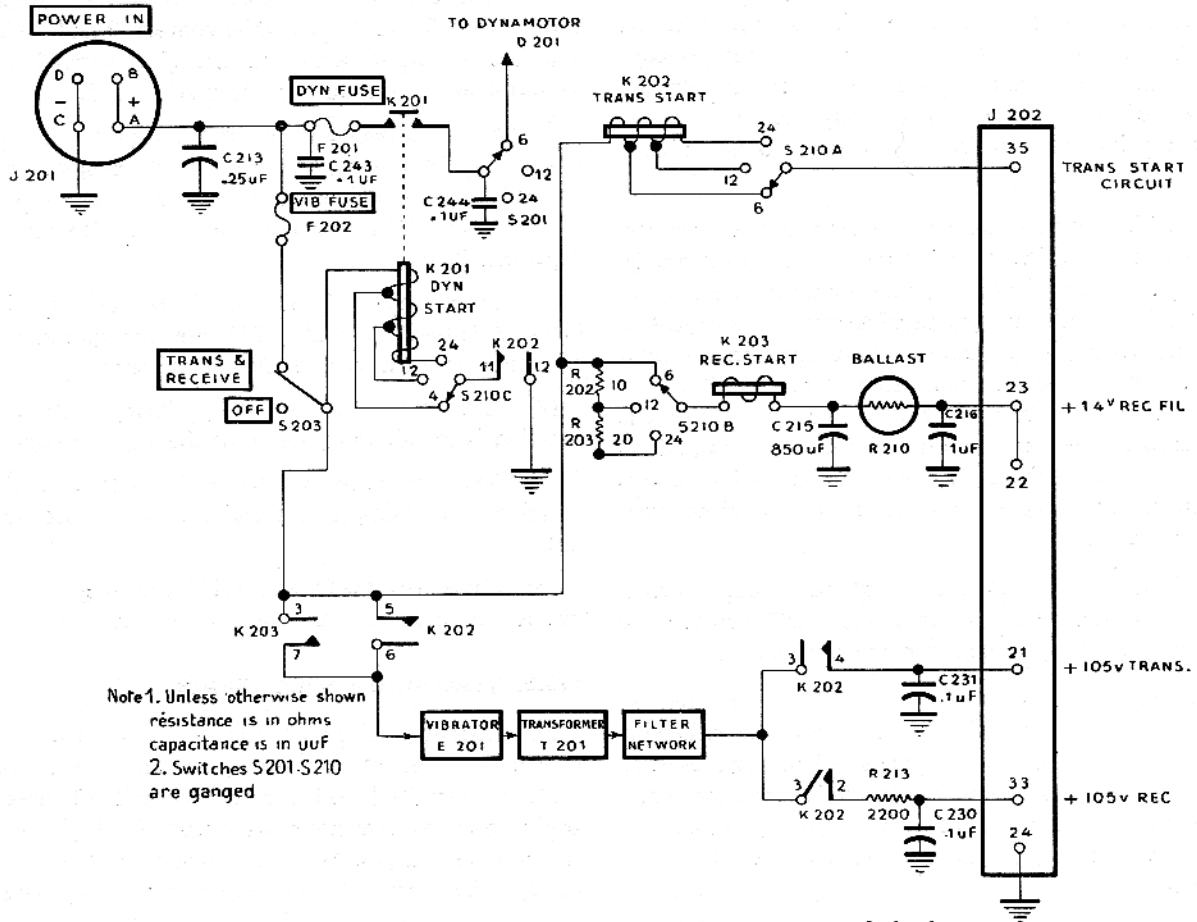
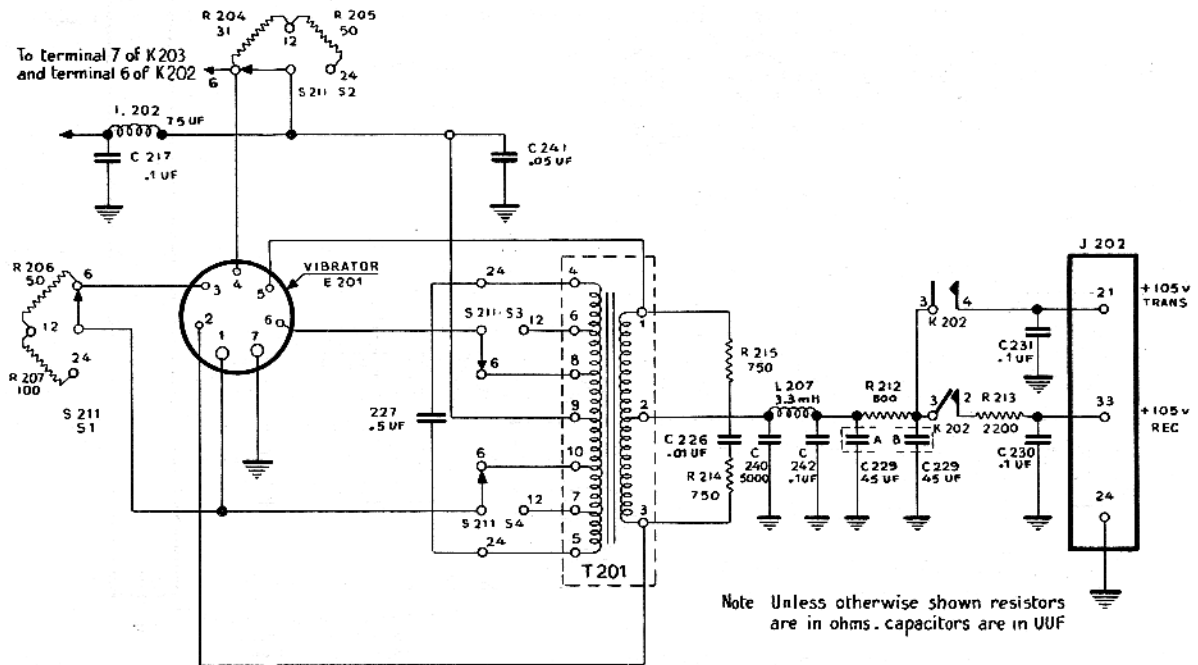

Figure 90.2. Dynamotor-Power Supply DY-88/GRC-9, control circuits
Figure 90.3. Dynamotor-Power Supply DY-88/GRC-9, vibrator circuits.
a. FUSES. The vehicular battery is connected to the + and — terminals of the dynamotor power supply across capacitor C213, (fig. 90.2). C213 is an r-f bypass capacitor which prevents the input cables from radiating r-f noise that would interfere with radio reception. DYN FUSE F201 protects the dynamotor circuits. *This fuse must be changed each time the battery voltage is changed* (par. 45.1). VIB FUSE F202 protects the vibrator circuits.
b. SWITCHES. The voltage selector switches, S201, S210 and S211 in the dynamotor power supply are ganged to one common shaft and perform the function of connecting the correct circuit components when a 6, 12, or 24 volts vehicular battery is used. There are several wafer sections of S210B, C and S211—S1, S2, S3, S4, (figs. 90.2 and 90.3). TRANS & RECEIVE-OFF switch S203 is a single-section rotary switch.
## 125.3. Receiver Filament Supply (fig. 90.2)
a. Synchronous vibrator E 201 and transformer T 201 (fig. 90.2) are used to supply 105 volts dc at 17 ma to the receiver plate and screen circuits during stand-by periods, and 105 volts dc at 45 ma to the plate and screen circuits of V 5 and V 6 in the receiver (fig. 65) and to the oscillator, doubler, and modulator plates and screens of the transmitter, during send periods (figs. 81 and 82).
b. Receiver start relay K 203 is energized when control Ⓢ is at the SEND or STANDBY position (par. 125.3). Battery current passes through closed contacts 3 and 7 of K 203, or 5 and 6 of K 202, or both (fig. 90.2), to voltage selector switch S 211—S 2 and to the center tap (terminal 9) of transformer T 201 (fig. 90.3). S 211—S 2 introduces the proper resistance into the circuit to permit the circuit to operate from each of the three different battery voltages used.
(1) The series-driven vibrator coil, connected from pin 4 to the stationary contact, and the movable arm,
connected to pin 7, constitute an ordinary buzzer similar to the doorbell type (fig. 90.3). However, the vibrating arm or reed moves back and forth many times more rapidly than in the familiar doorbell buzzer. The current through the vibrator coil attracts the reed, breaking the circuit to ground. This de-energizes the coil and the reed swings back in the opposite direction, completing the circuit to ground again. This action continues, causing the reed to swing back and forth rapidly. The movable arm connects to ground through pin 7, and also makes contact with pins 1 and 6 in the two opposite directions of its vibration, thus connecting each pin alternately to ground. (Pins 2 and 5 are considered in subparagraph (2) below.) Pins 1 and 6 are connected to voltage selector switches S 211—S 3 and S 211—S 4, which select the proper voltage for operation of transformer T 201. Therefore, as the movable arm vibrates alternately to connect the top and the bottom of the primary of T 201 to ground, the center tap (terminal 9) of the transformer connects to the positive terminal of the battery. Because of this center tap, the current in the primary flows from the center to either the top or the bottom half of the primary, depending on whether pin 1 or pin 6 of the vibrator is connected by the vibrating arm to ground. Therefore, the function of the portion of the vibrator considered so far is to cause an alternating
a. TRANSMITTER START RELAY. When control Ⓢ is turned to the SEND position, transmitter start relay K202 is energized and contacts 11 and 12 close to apply power to dynamotor start relay K201 (fig. 90.2). At the same time, contacts 5 and 6 and 3 and 4 of K202 close, while contacts 2 and 3 open (par. 125.6). Voltage
*a.* Closed contacts 5 and 6 of K202 apply battery power to the vibrator portion of the dynamotor power supply (fig. 90.2). The 105-volt output is applied through closed contacts 3 and 4 of K202 (contacts 2 and 3 now are open), terminal 21 of J202, and closed contacts 18 and 19 of keying relay K101 to the receiver (fig. 65).